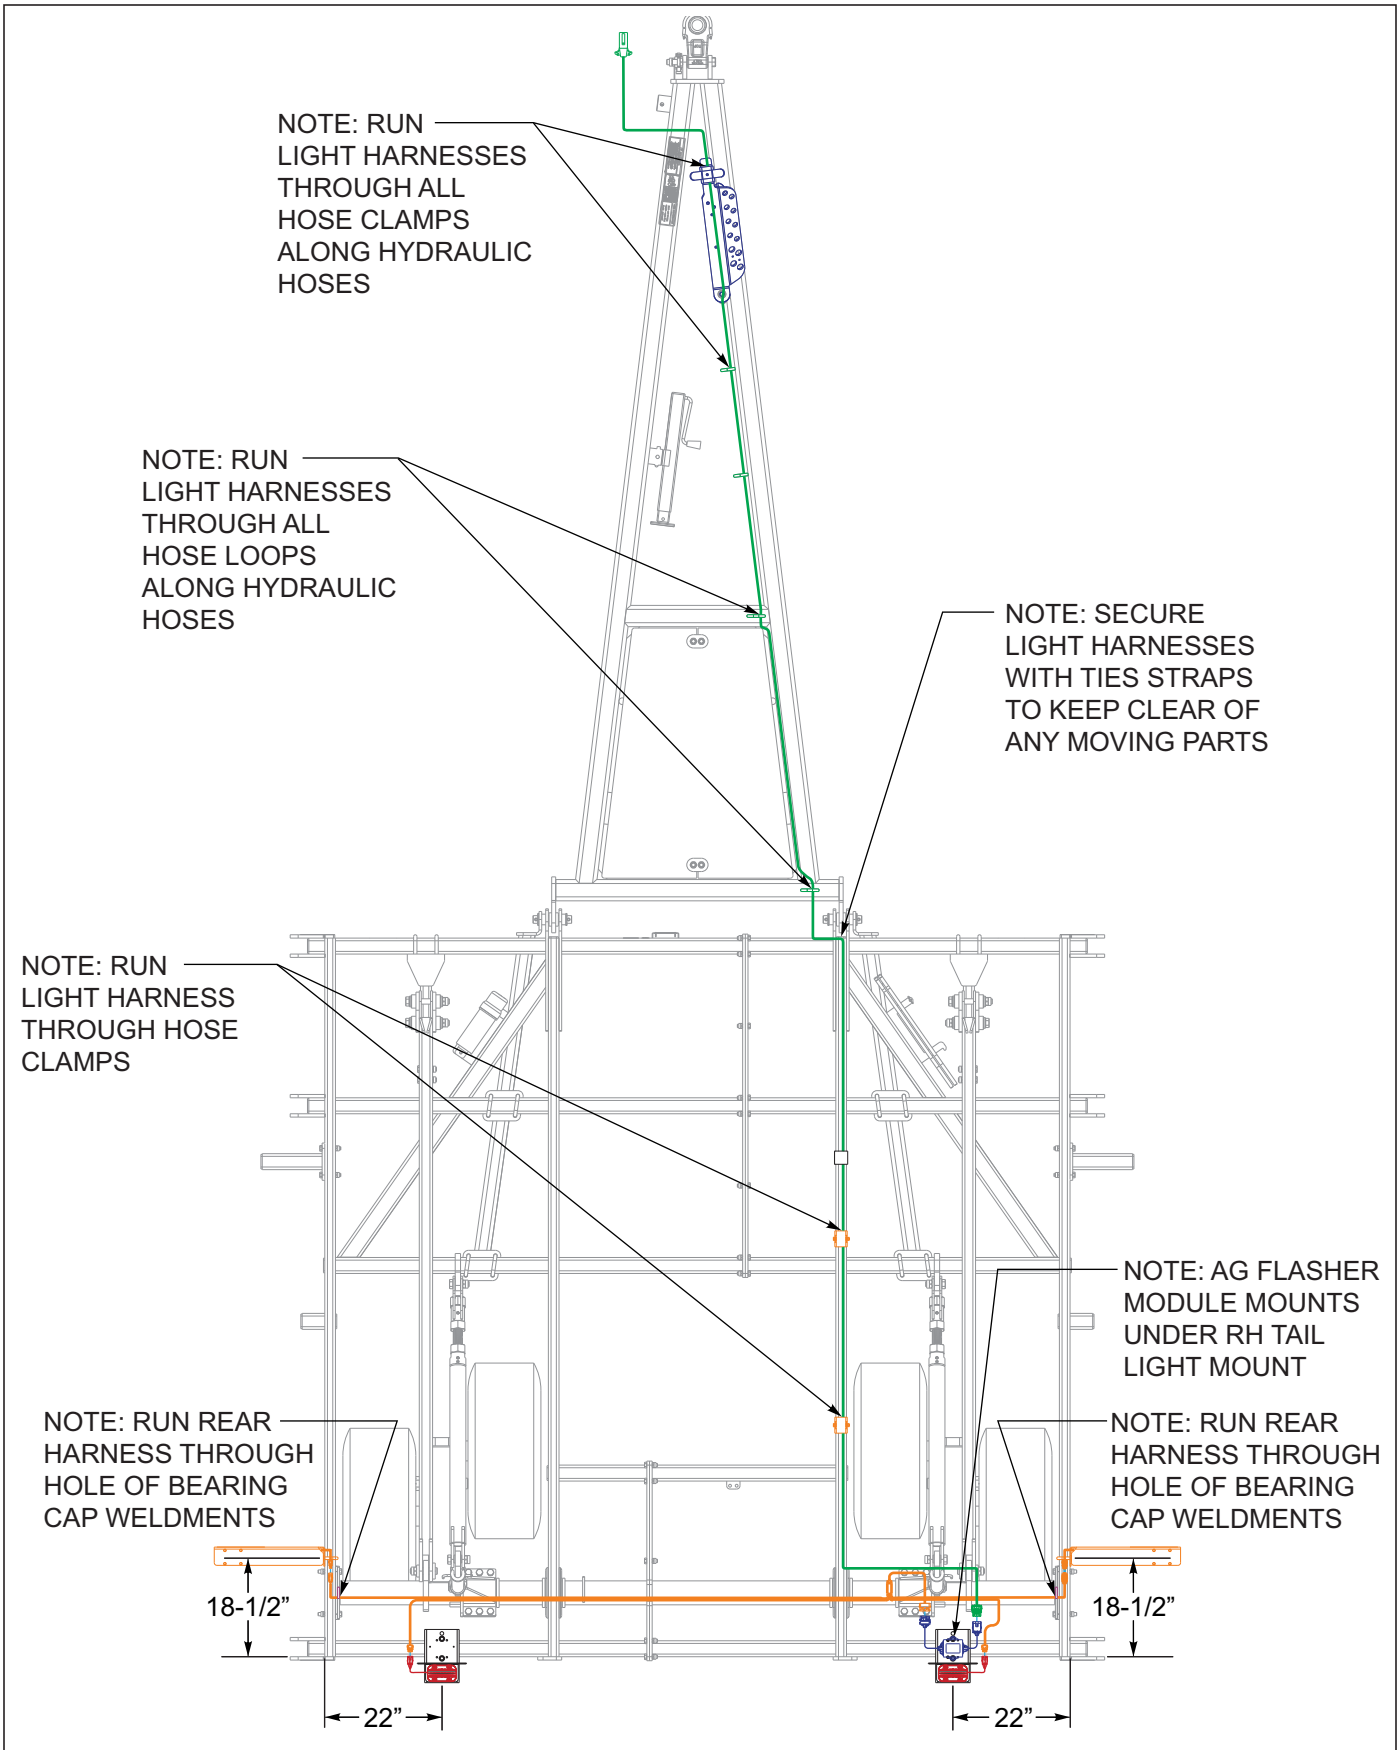

Figure 3-17: LED Light Layout
1. Attach LH and RH amber light bracket assemblies to center frame using 1/2 x 2-1/8 x 3-1/4 u-bolt and lock nuts **See Figure 3-16** and **See Figure 3-17** for light bracket placement location.
8. Insure that the harnesses are clear of any moving parts and secure the harnesses with tie straps provided. **See Figure 3-17** for light harness routing.